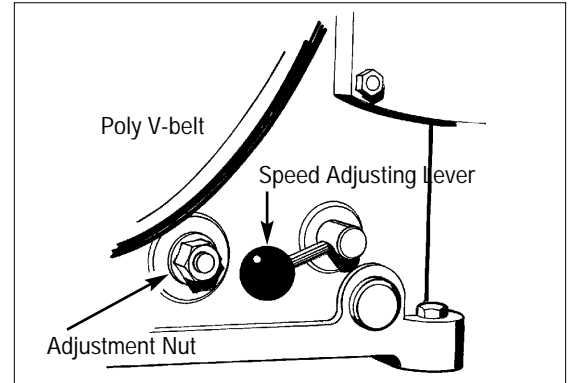

Figure 5 - Engage lever and loosen nut
2. Loosen the adjustment nut. See figure 5.